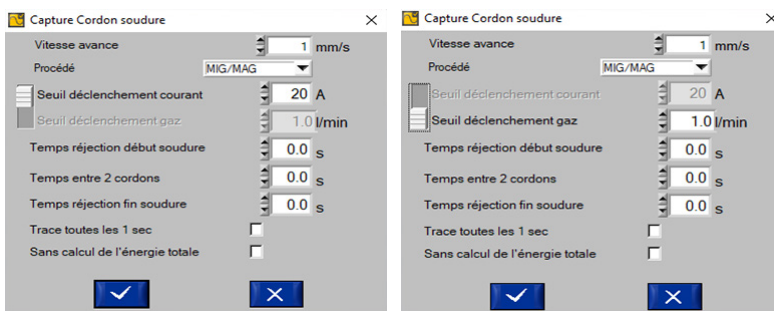

Fig.2 : cord capture settings
- The triggering threshold: value of the current or flow rate above which cord recording starts and below which cord recording stops (a fig. 2 and diagram).
- Time between 2 weld beads: time between 2 weld beads. Recording stops beyond this duration (c fig. 2 & diagram).
- Start/stop welding rejection time: Duration at the beginning and at the end of the weld bead production during which the recording does not take place in order not to impact the measurement by the rising and decreasing phases of the current. (b & d fig.2 & diagram).